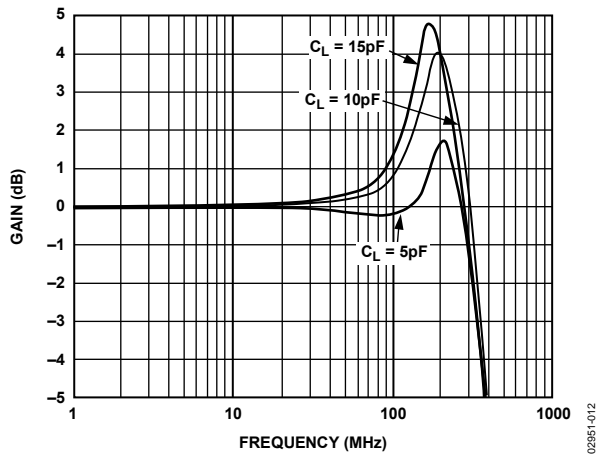
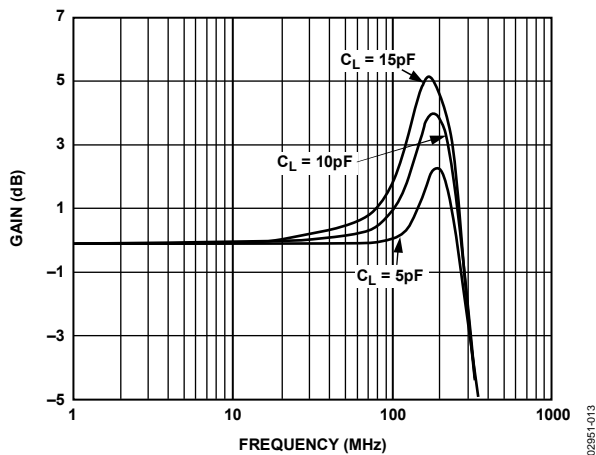
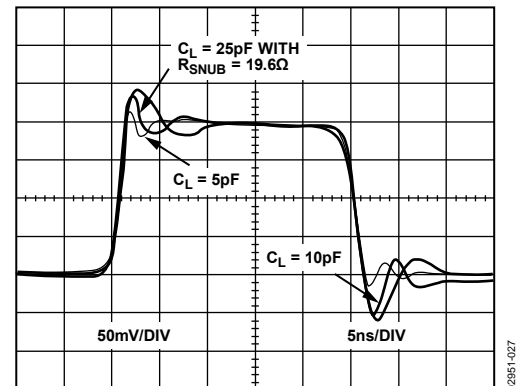
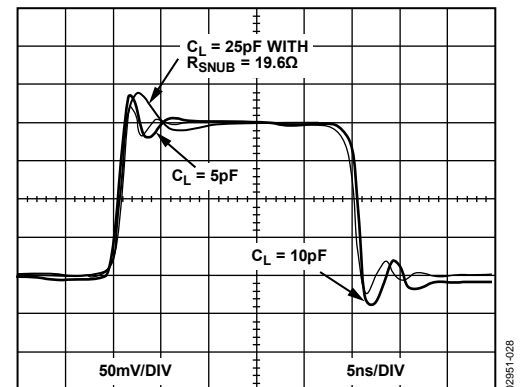

Figure 12. Small Signal Frequency Response for Various C_L , $V_{OUT} = 500\text{ mV p-p}$, $V_S = \pm 5\text{ V}$, $G = +1$
Figure 13. Small Signal Frequency Response for Various C_L , $V_{OUT} = 500\text{ mV p-p}$, $V_S = 5\text{ V}$, $G = +1$
Figure 27. Small Signal Transient Response for Various C_L , $V_S = 5\text{ V}$
Figure 28. Small Signal Transient Response for Various C_L , $V_S = \pm 5\text{ V}$
- Put a small value resistor in series with the output to isolate the load capacitor from the output stage of the amplifier, see Figure 12, Figure 13, Figure 27, and Figure 28.